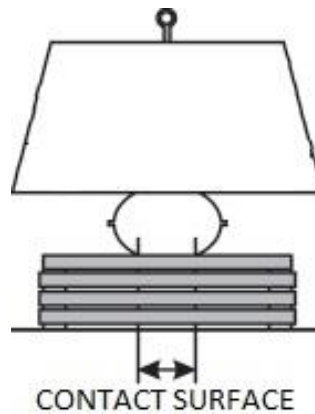

Figure 10 – Min. Contact Surface/Max. Lifting Height
- 5.4.3 When the air bag is fully inflated, the contact surface and lifting capacity reach their minimum and the lifting height its maximum (see Figure 10).